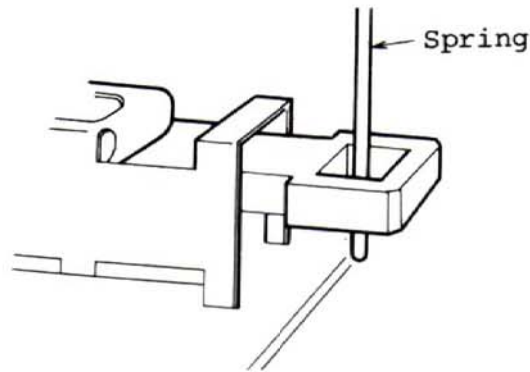

Fig. 4
- 2) As shown in Fig. 4, link the PC clamping screw to the spring. (Two sections)